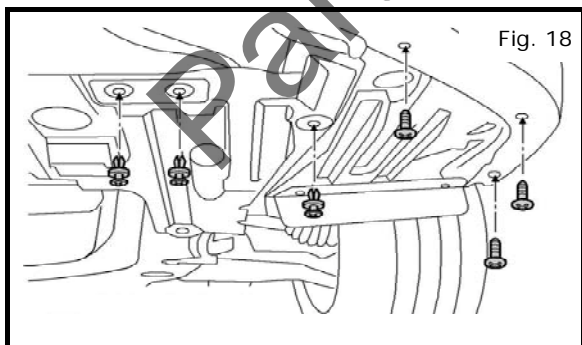

Fig. 18
b) Install three (3) phillips screws followed by three (3) retaining clips as shown in Fig. 18.